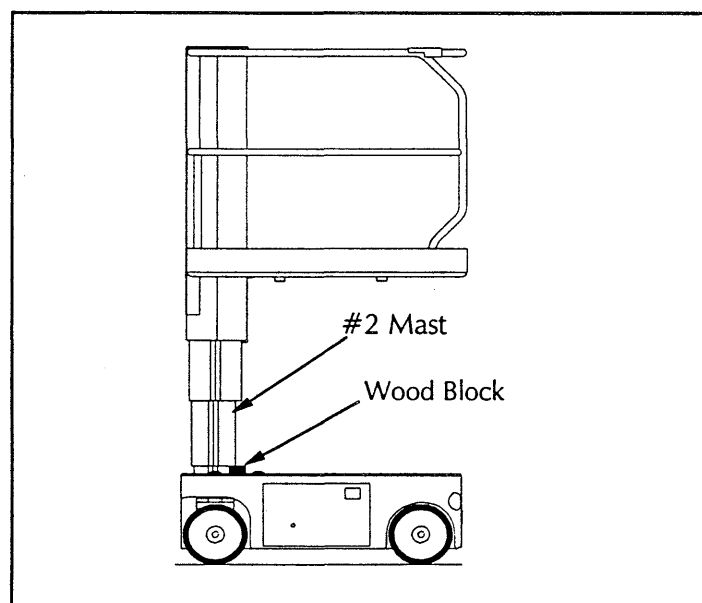

Figure 4-1: Blocking the Elevating Assembly
## 4.2 Blocking Elevating Assembly (Figure 4-1)
6. Push Chassis Lift Switch to **DOWN** position and gradually lower Platform until the #2 Mast is supported by the block, see Figure 4-1.